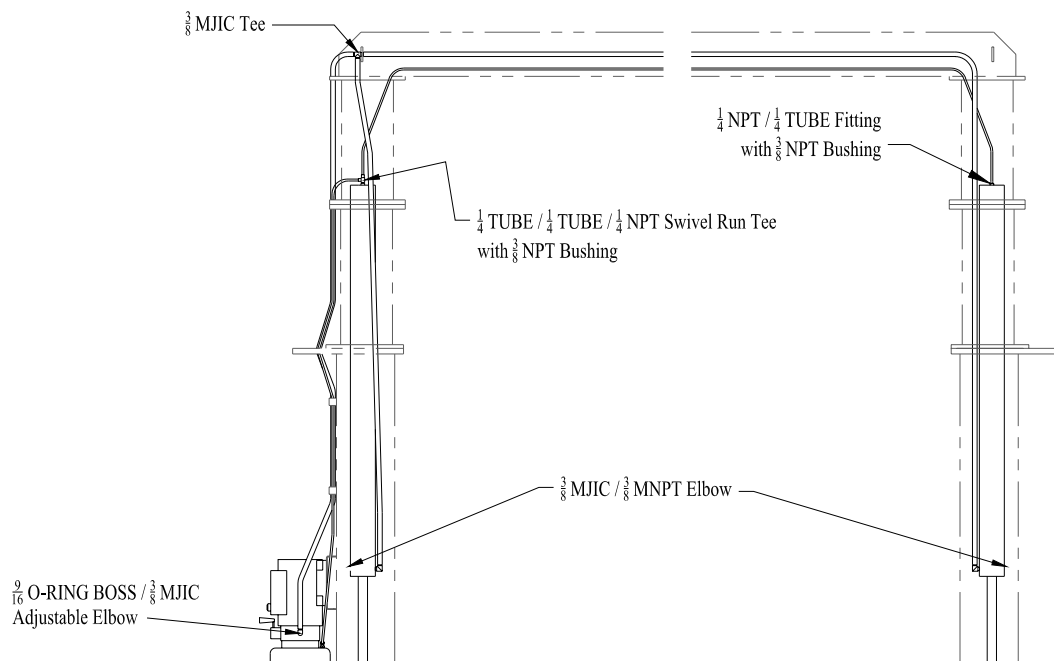

Figure 12
12. Hydraulic system, figure 12.
14. Bleeding the hydraulic system, figure 12.
15. Connecting the return lines, figure 12.